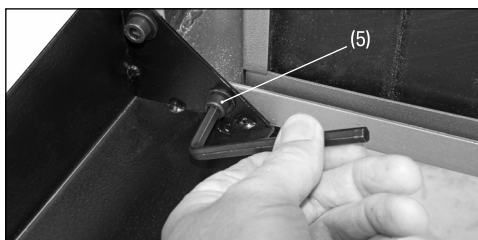

Fig. 1
1. Secure the stand legs (1) to the bandsaw with fixings (5) – see Fig.1.